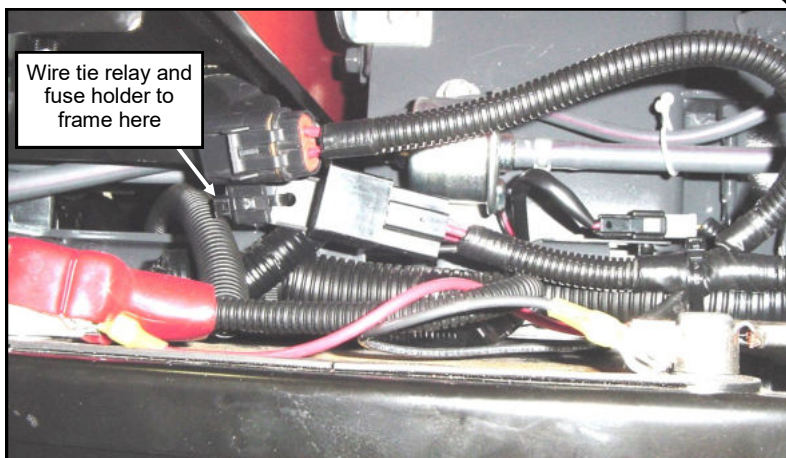

Fig. 2.2: Relay harness to battery connection
- 2.2 Using a wire tie, secure the relay and fuse holder to a hole in the frame, above and forward of the battery, as shown in figure 2.2.